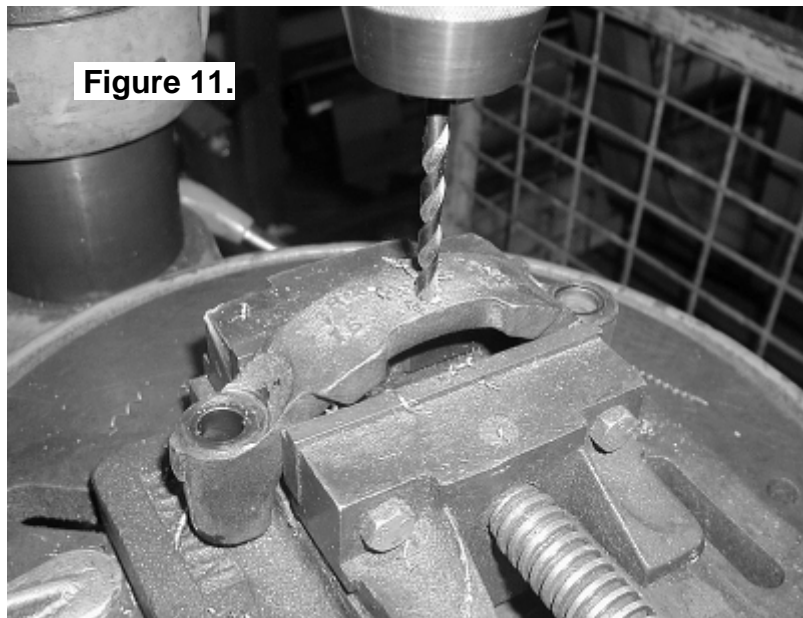

Figure 11.
- ☐ Using a pedestal drill, drill a 6.35 [1/4"] hole through the bearing cap where the seal housing tube hole has been marked. (Fig. 11.)